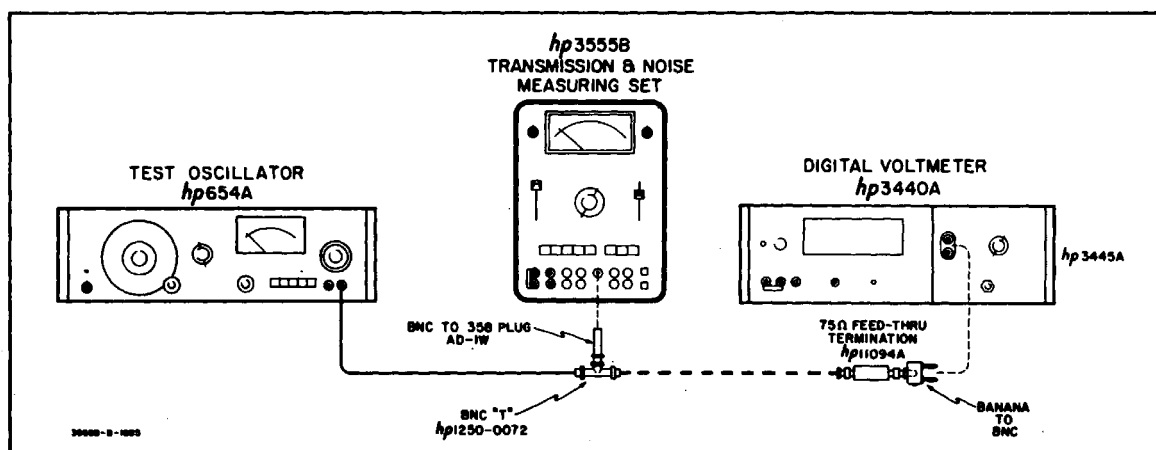

Figure 5-2. Level Accuracy Check
- a. Connect only the 654A and 3555B as shown in Figure 5-2 and set the 3555B controls as follows: